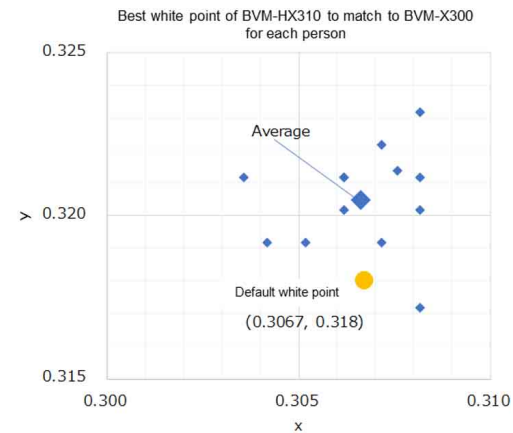

Figure 2. Result of a color matching experiment
- The current white point of BVM-HX310 as set during factory shipment was not found to be at the average value in the range of variations (Figure 2).